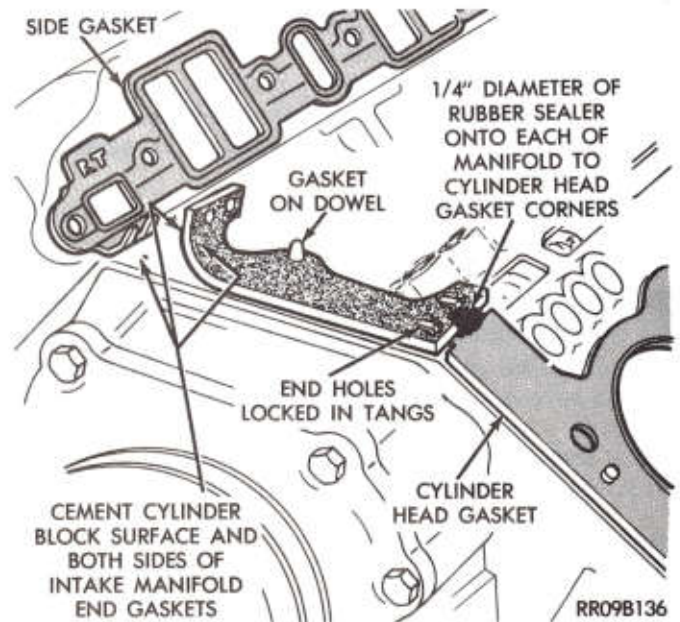

Fig. 13—Intake Manifold "End" Sealing
(5) Install side gaskets to cylinder head.
(6) Clean cylinder block front and rear gasket surfaces using a suitable solvent (Fig. 13).
(7) Apply a thin, uniform coating of a quick dry cement such as Part Number 2299314 to the intake manifold front and rear gaskets and cylinder block gasket surface. Allow to dry 4 to 5 minutes or until tack free.
When installing gaskets, the center hole in the gasket **MUST** engage dowels in block. End holes in seals **MUST** be locked into tangs of head gasket (Fig. 13).